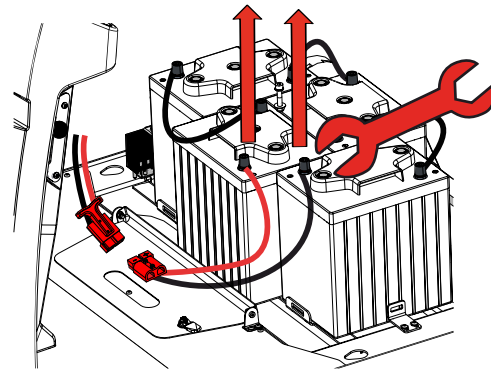

Fig. 30
- Disconnect terminal clamps from minus terminal (-) (Fig. 30)
- Disconnect terminal clamps from plus terminal (+) (Fig. 30).